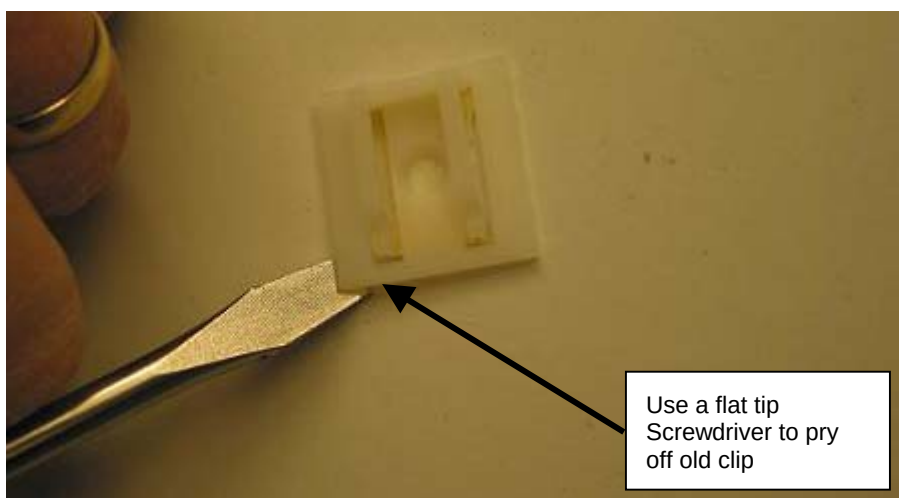

Figure 2 Remove old clip.
3. Use a flat tipped screwdriver to carefully pry (remove) the two lower cable restraints from the cover. See Figure 2